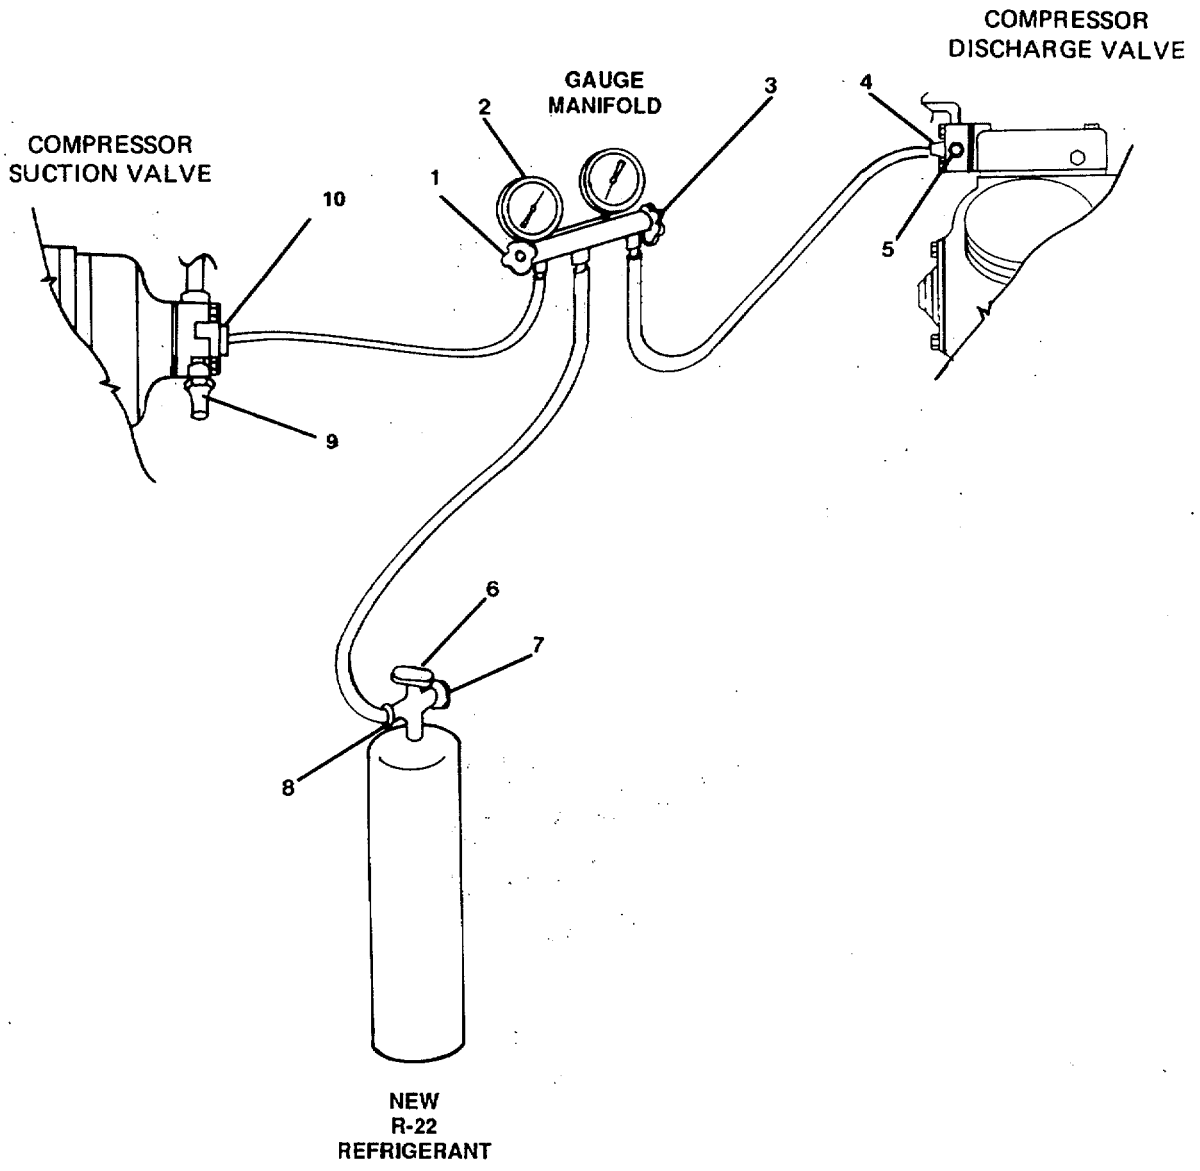

FIGURE 4-24. *Adding Refrigerant to Compressor.*
- (11) Connect the common hoseline on the gauge manifold to valve connection (8, FIGURE 4-24) on a R-22 refrigerant container (7).
- (12) Purge hoses.
- (13) Open gauge port handwheels (1) and (3) counterclockwise one-half to one turn.
- (14) Slowly open the valve (6) on the refrigerant container (7). A hissing sound can be heard as refrigerant passes from container to compressor.
- (15) When hissing sound has stopped, close gauge port handwheels (1) and (3) fully clockwise.
- (21) Add additional R-22 refrigerant, by first opening the valve (6, FIGURE 4-24) on refrigerant container (7); then slowly opening gauge port handwheel (1) on the gauge manifold counterclockwise one-half to one turn. When operating pressures are within normal range, close gauge port handwheel.